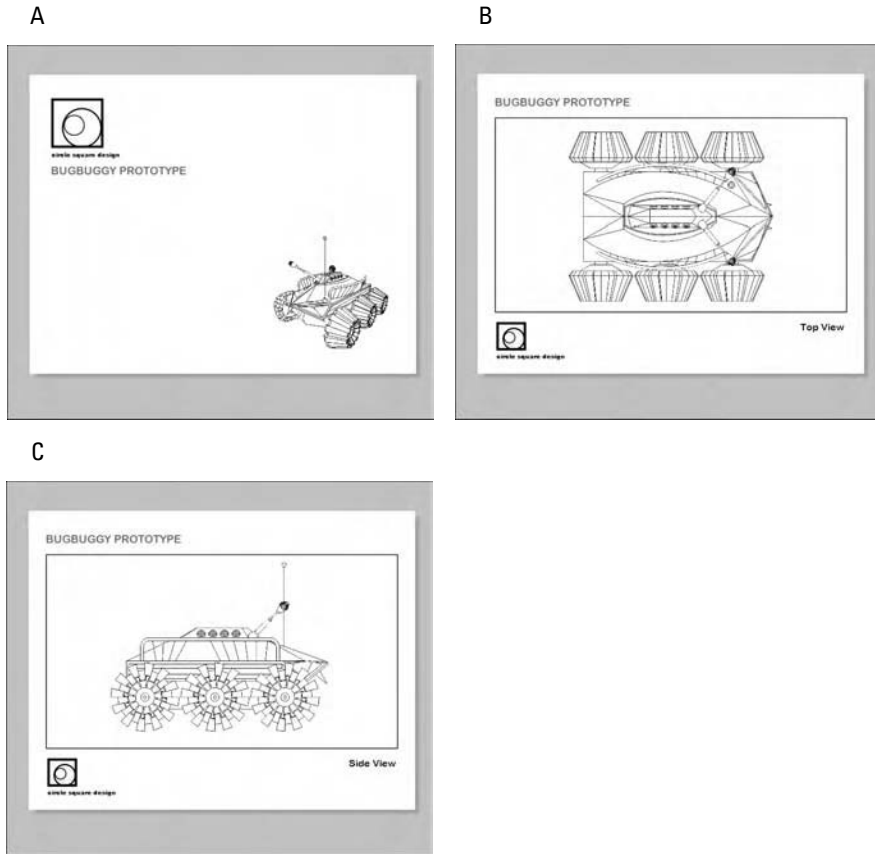

Figure 15-6:
- ✔ **You can make an element (like a logo) appear in the same spot on more than one page by putting it on a master layer.** For example, the logo and the project title need to appear in the same spot on every page; I put these two elements on the master layer called “On Every Page.” In Figure 15-6, note how the logo and project title appear in exactly the same place in the pages labeled B and C.
- ✔ **You decide which pages should display master layers by toggling the Sharing icon to the right of their names in the Pages dialog box.** For example, I don't want the logo and the project title to be on the cover page (labeled A in Figure 15-6). I toggle the Show Master Layers icon beside the cover page to Off, as shown in Figure 15-7.